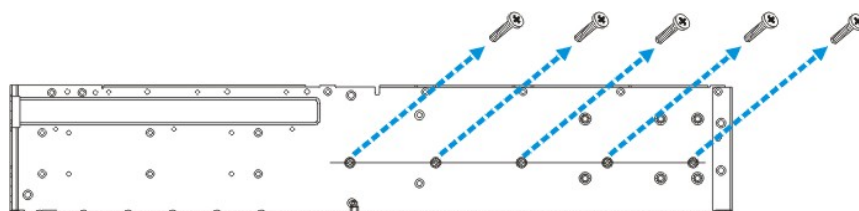

Figure 2-2: Enclosure Side Mounting Holes (2)
- *Figure 2-2* shows holes that are designed for slide rail options. There are five (5) mounting holes for #6-32 screws on the sides of the enclosure for use with slide.